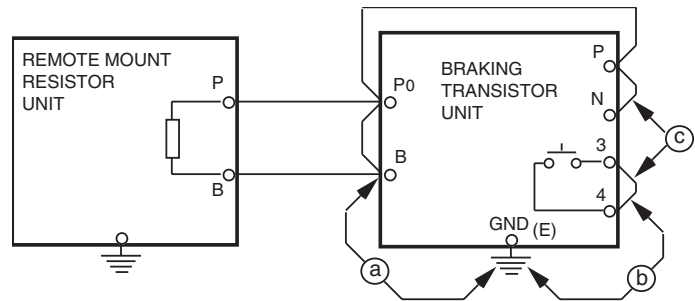

Figure A6-6. Megger Testing Set-up
- Connect common leads (jumpers) across Braking Transistor Unit terminals N, P, Po, and B, and across 3 & 4, as shown in Figure A6-6.
- Measure the insulation resistance at points a, b, and c in Figure A6-6 with the megger.